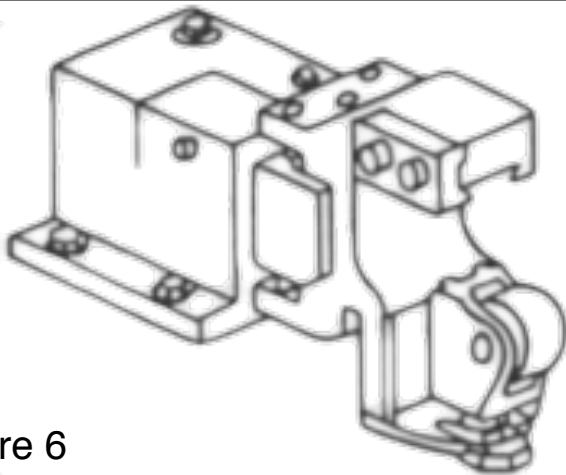

Figure 6
1. **Chatter** causes when using a Slitters Holder (Figure 6):